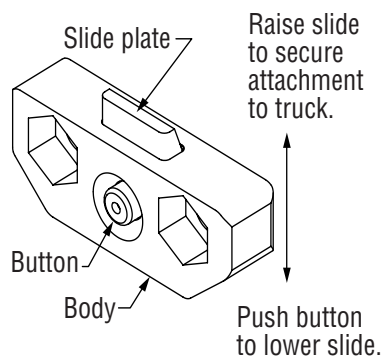

Figure 5-1, Quick hook
2. Slightly raise the truck carriage to remove the bottom mounting hooks. If the attachment is equipped with quick hooks, simply press the slide plate release button and drop the slide plate down. (Figure 5-1)